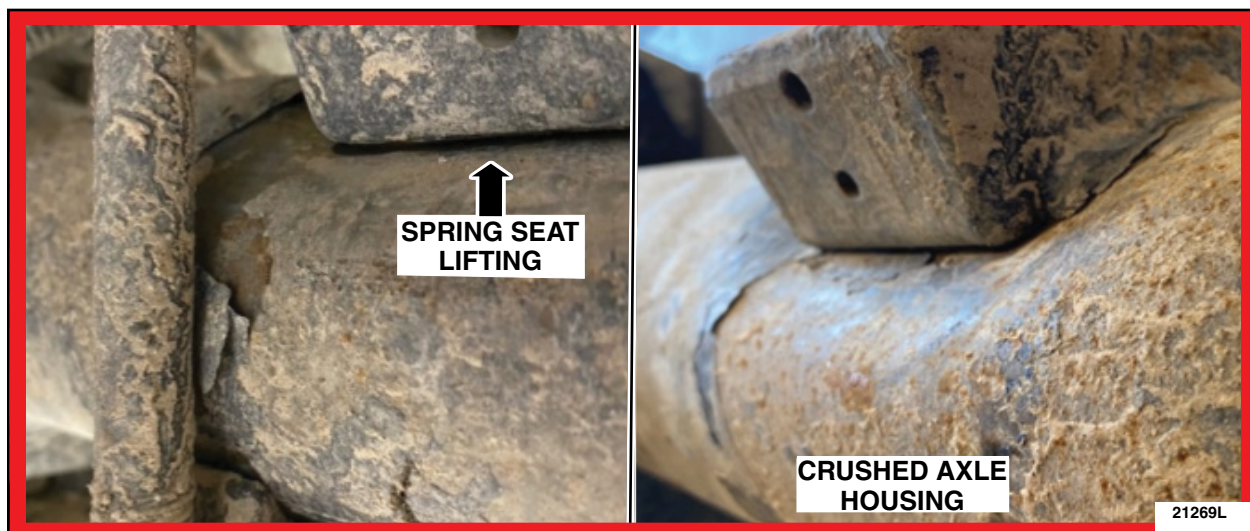

FIGURE 1
3. Visually inspect the front of the rear axle housing assembly below the leaf spring seat brackets for damage (dents, creases). See Figure 1.
4. Visually inspect the rear of the leaf seat spring bracket for damage (rips or breaks in the metal or welds) and to see if the leaf spring seat bracket is pulling away from the rear axle housing assembly. See Figure 1.